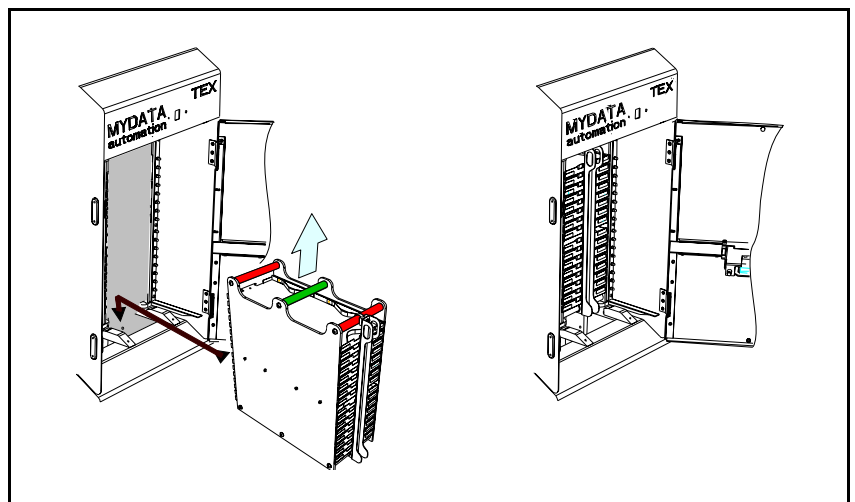

Figure 7-8. Inserting a cassette into a TEX unit.
13. If the cassette is removed from the TEX unit, lift the cassette in the center handle, see Figure 7-8, and carefully insert it.